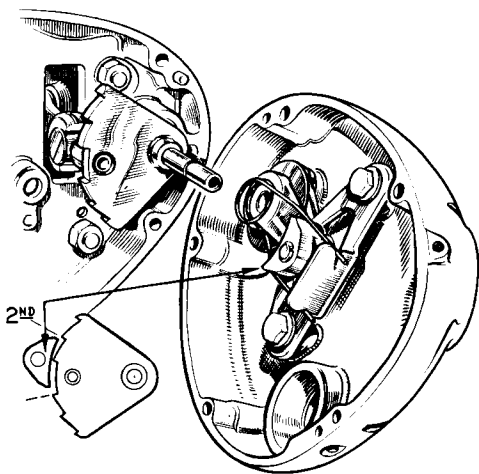

FIG. 37
Take off the outer cover (56) then the quadrant (50) with the pawl spring behind it. Tap out the gearshift sleeve (52) washer (53). Take out two bolts (73) remove plate. The spring assembled is shown in fig. 37.